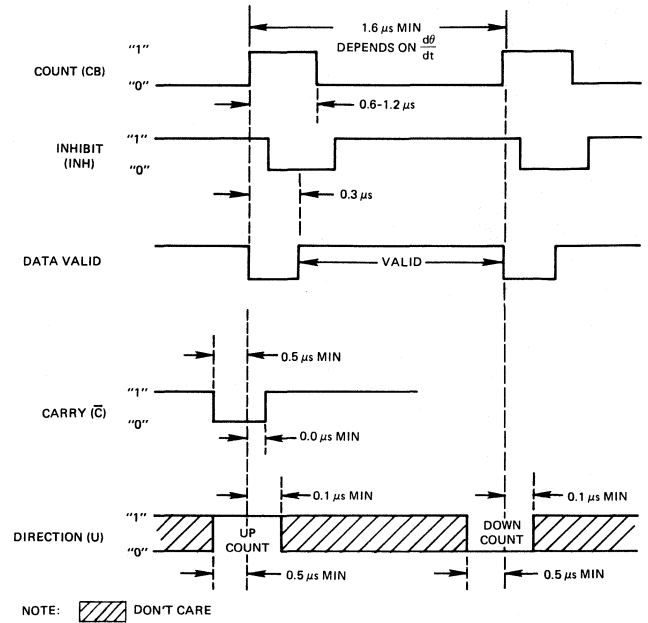

FIGURE 2. TIMING DIAGRAM
Figure 2 shows the timing waveforms of the converter. Whenever an input angle change occurs, the converter changes the digital angle in steps of 1 LSB, and generates a count pulse (CB). The CB is a positive pulse 0.6 to 1.2 μsec long. Data changes on the leading edge of the CB pulse, and data can be transferred 0.3 μsec after the leading edge. Other digital signals on the timing diagram are discussed under DIGITAL OUTPUTS.